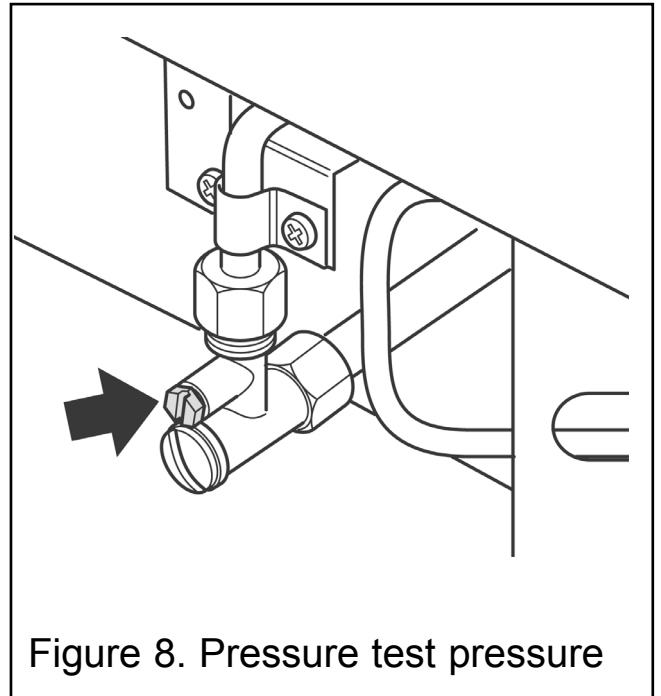

Figure 8. Pressure test pressure
1. Check the inlet pressure by fitting a pressure gauge at the test point. The test point is on the inlet 'T' connector. See figure 8. Check the pressure with the appliance alight and set at maximum output.